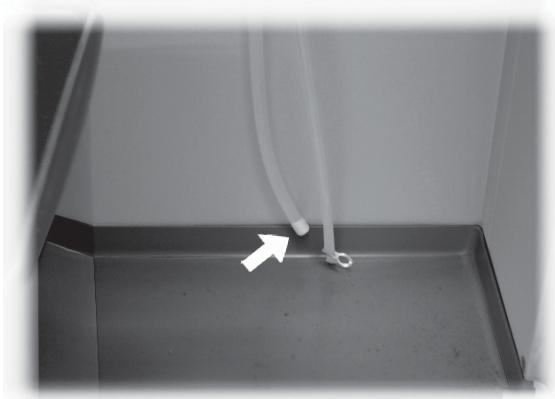

Fig. 94
- empty the AIR BREAK device. Remove the pipe cap (Fig. 94) and channel the water into a container. After draining the pipe completely, fit the cap back into its original position;